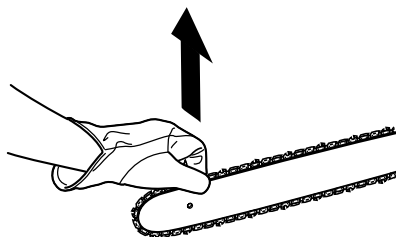

Fig. 27
- Lift the tip of the guide bar up to check for sag. (See Fig.27)